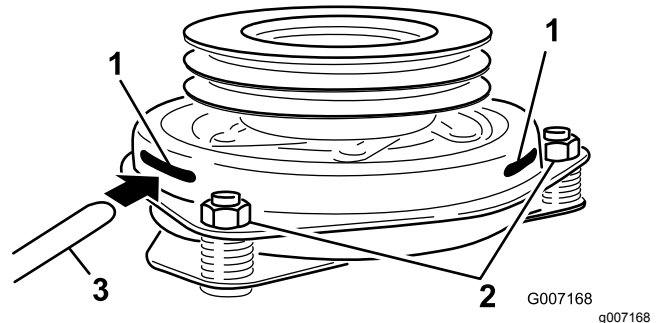

Figure 67
9. Insert a 0.381 to 0.533 mm (0.015 to 0.021 inch) feeler gauge through an inspection slot in the side of the assembly (Figure 67).
10. Tighten the locknuts until there is slight binding on the feeler gauge but it can be moved easily within the air gap (Figure 67).